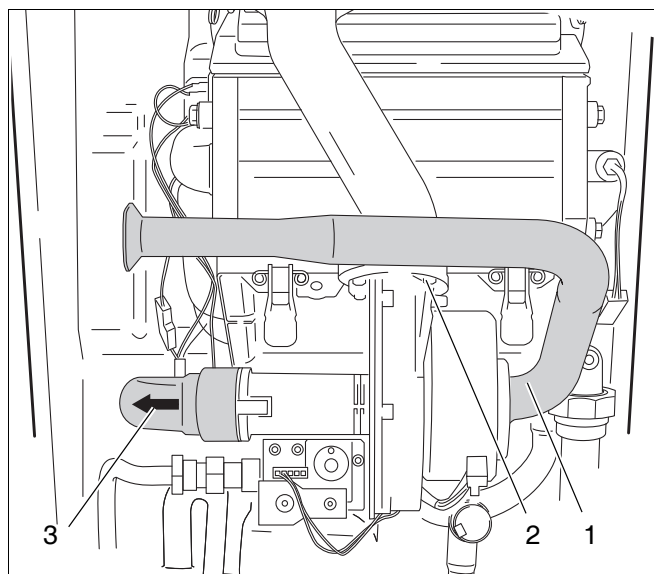

fig. 13 Dismantling the fan unit
- Remove the air suction tube (see fig. 13, pos. 1).
- Remove the fan unit fastening screw (see fig. 13, pos. 2).
- Remove the fan unit by swinging it to the right (see fig. 13, pos. 3).